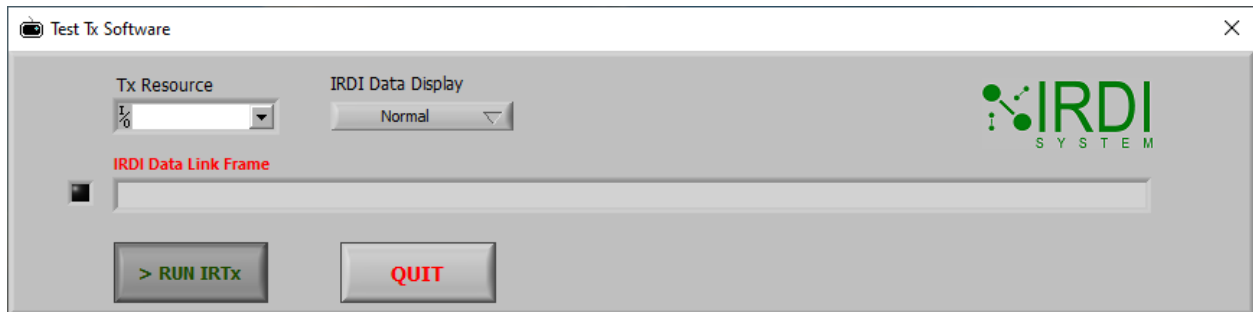

FIGURE 5-1: IDT LABVIEW SOFTWARE SCREEN
STEP 3	Click on the “200676_R02 – Test Tx Software” application to start the IDT LabVIEW program. The program screen appears as shown in Figure 5-1.